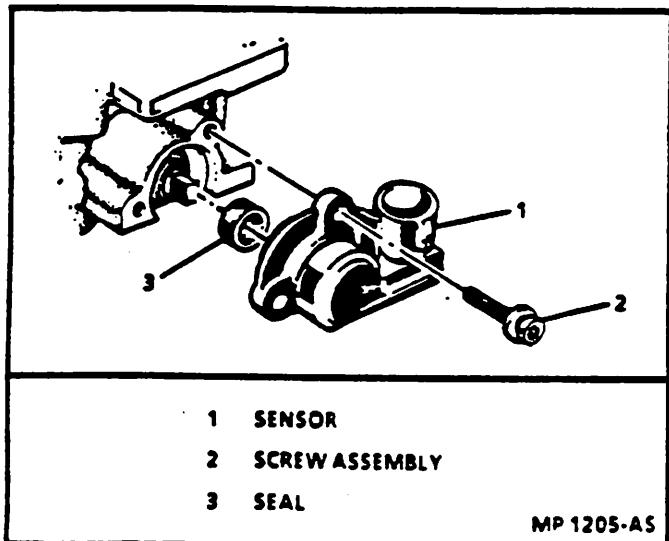

Figure 4 - Throttle Position (TP) Sensor
Figures 4 and 16
- TP sensor seal over throttle shaft as shown in Figure 4.